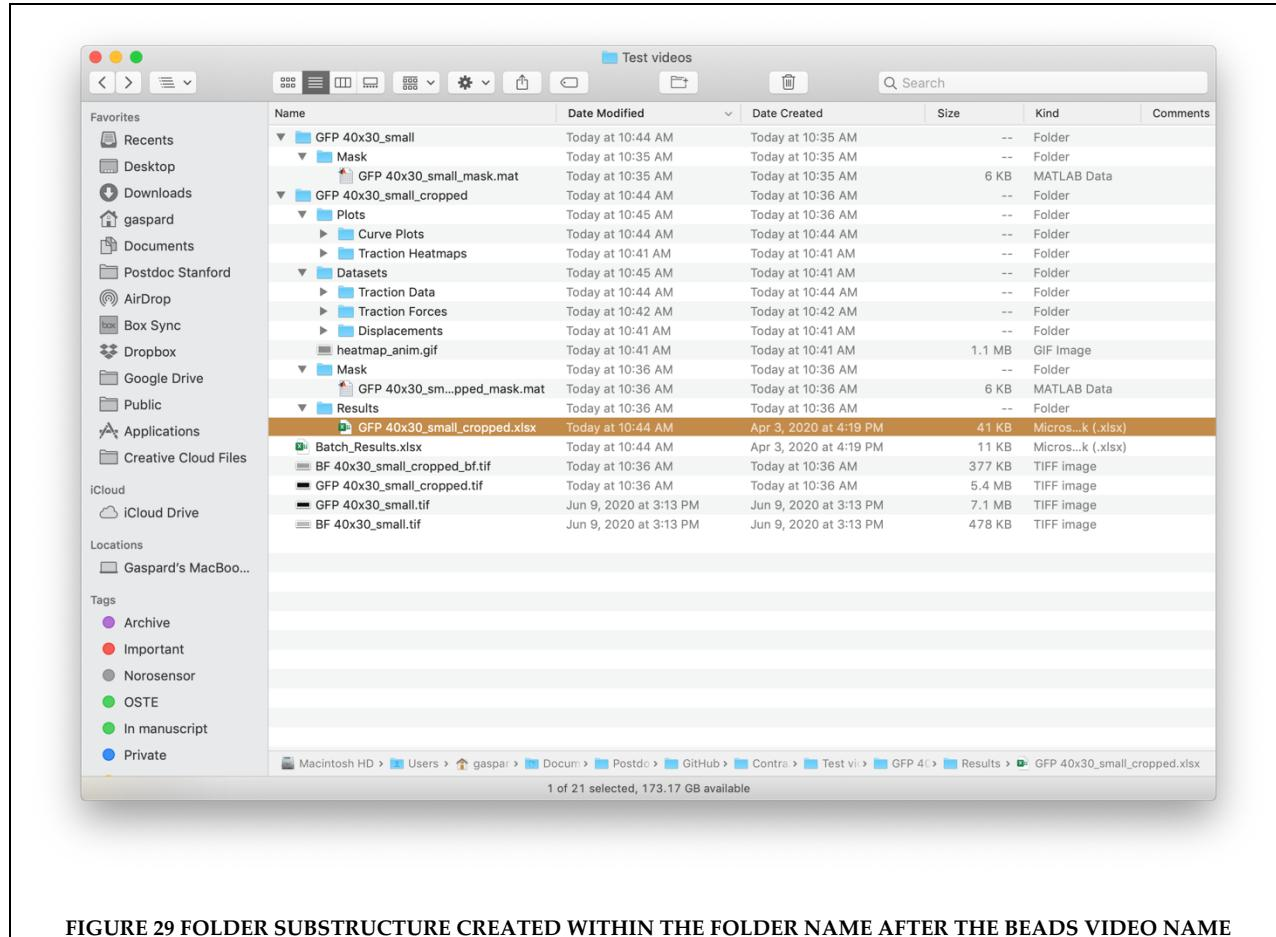

FIGURE 29 FOLDER SUBSTRUCTURE CREATED WITHIN THE BEADS VIDEO NAME
- In the folder for the beads video, the substructure shown in Figure 29 is generated: